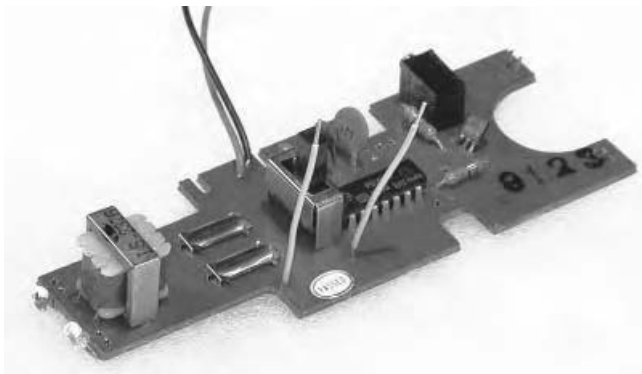

Figure 13.2 Resistor whiskers.
2. Strip and tin the ends of two pieces of hookup wire (approximately 3–6 inches long). Press the end of one into one of the holes left after removing the resistor from the component side of the circuit board. Melt the solder on the solder side of the board as you press the end of the wire through the hole. Touch up the solder joint with a bit of fresh solder to make sure it is solid. Repeat with the second wire into the other hole. Your circuit board should now have two colorful whiskers sprouting from among the other, vertically challenged components (see figure 13.2). If you removed a pot from the board, there may be more than two holes; solder a wire to each of them.